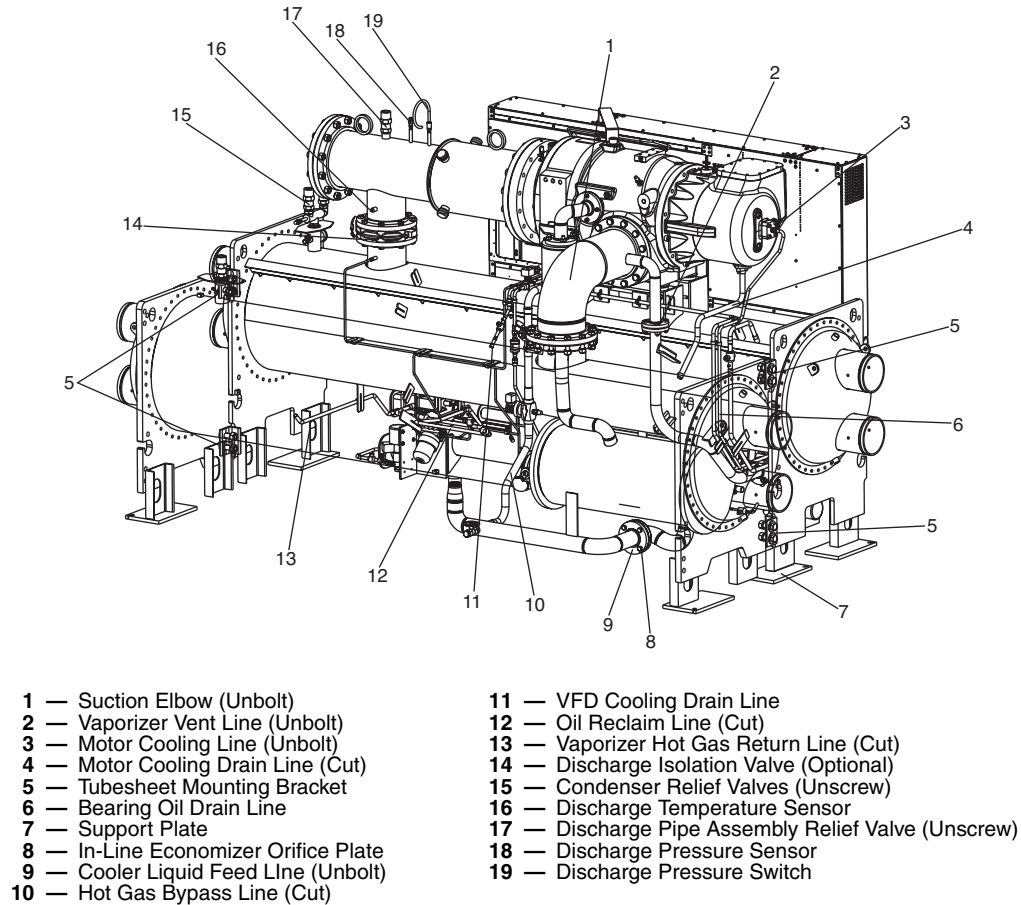

Fig. 12 — Cooler/Discharge Pipe Assembly Removal
NOTE: For steps 1 through 13 refer to Fig. 12. The cooler has been removed from the picture to show the pipes and lines that must be cut.
8. Unbolt the cooler liquid feed line near the economizer or condenser float chamber at the flanged connection. Temporarily secure the in-line economizer orifice plate (economized chillers only) to the economizer flange (see Fig. 12).
NOTE: For steps 1 through 6 refer to Fig. 12.
4. If the cooler has been removed, rig the suction elbow and unbolt the suction elbow at the compressor and vaporizer vent line flanges (see Fig. 12). If the cooler is still in place, it may be necessary to loosen the bolts that secure the suction elbow to the cooler.